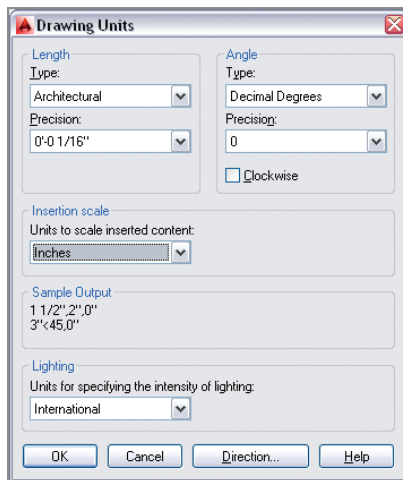

FIGURE 7.8 Setting Insertion Scale in the Drawing Units dialog box
2. Type **UN** (for Units), and press Enter. Open the Insertion Scale drop-down menu, and select Inches (or Centimeters) if it is not already selected (see Figure 7.8). Click OK to close the Drawing Units dialog box.